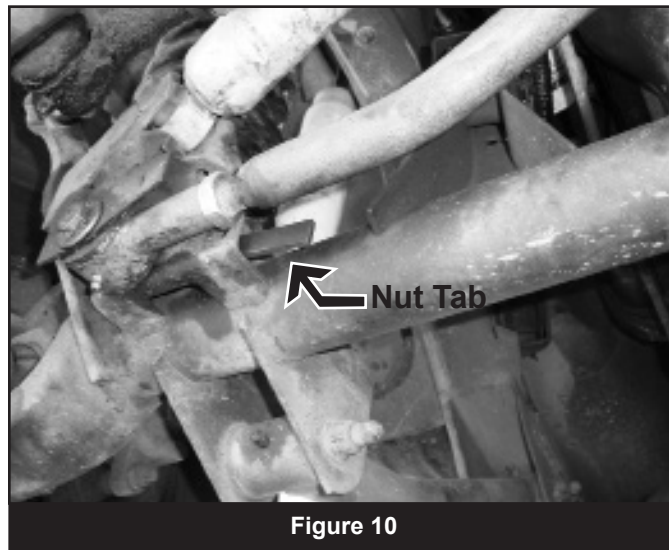

Figure 10
43. Center the front axle and swing the lower track bar mount into place. Adjust the length as necessary. Attach the track bar to axle mount with ½" head bolt and nut tab. Run the nut tab horizontally from the center of the vehicle (Fig 10). Tighten the bolt to 55 ft-lbs.